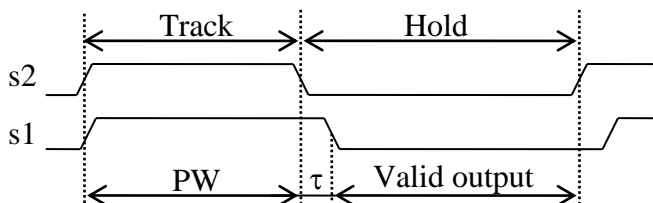

Fig. 3. Sampling Diagram
The input clock buffer converts an external clock `cp/cn` into two internal signals `s1` and `s2` with controlled pulse width (PW) as shown in Fig. 3.